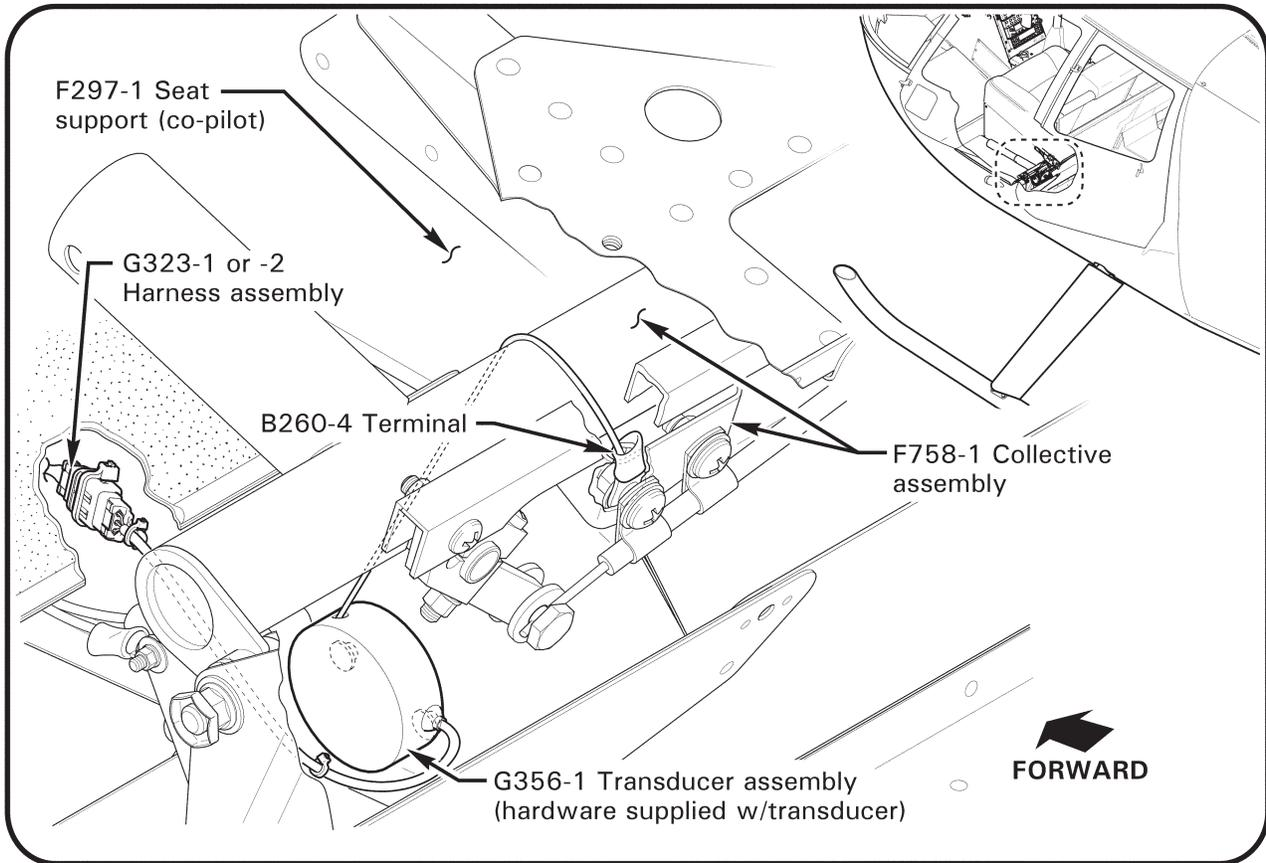

FIGURE 22-6 GARMIN FCS – G356-1 TRANSDUCER ASSEMBLY
4. Refer to Figure 22-6. Cut and discard ty-raps as required and disconnect G356-1 transducer assembly harness from G323-1 or -2 harness assembly.
3. Refer to Figure 22-6. Position G356-1 transducer assembly on seat assembly and install hardware (do not overtighten) securing transducer. Verify security.